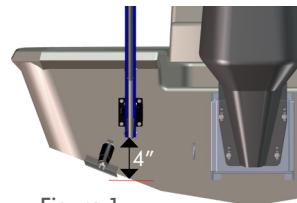

Figure 1
1. Place a straight edge on the bottom of the hull directly below and centered from the desired mounting location. The lowest point of the Power-Pole anchor must be at least 4" above this straight edge or the vessel may experience adverse handling effects. **FIG. 1**